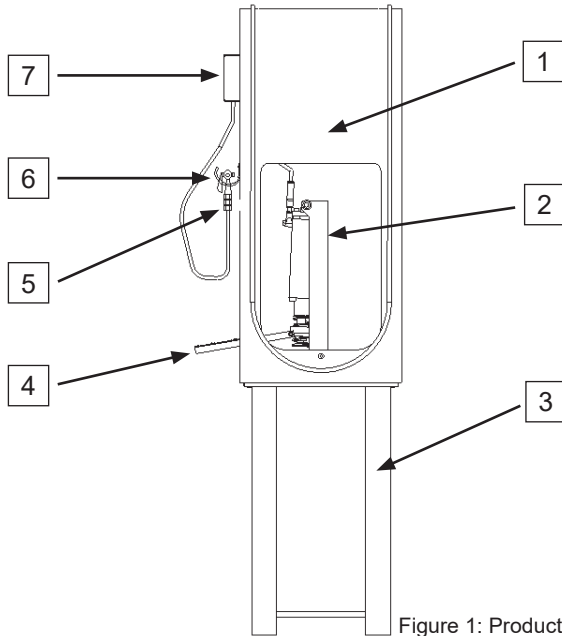

Figure 1: Product overview
The pump head on the side of the cabinet (Figure 1, item 5) is used for pumping and it accommodates the three common valve types used on bicycle tires: Dunlop, Schrader, and Presta.
After using the air pump system, place the pump head on the hook on the side of the cabinet (Figure 1, item 6).